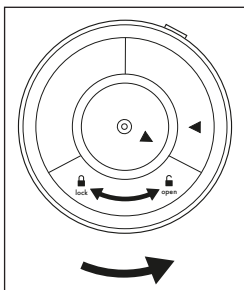

Fig. 1
2. Turn the main appliance **7** upside down to access the battery compartment latch **13**. Rotate the battery compartment latch **13** anticlockwise towards **open**  until the battery compartment latch **13** can be removed (see Fig. 1).